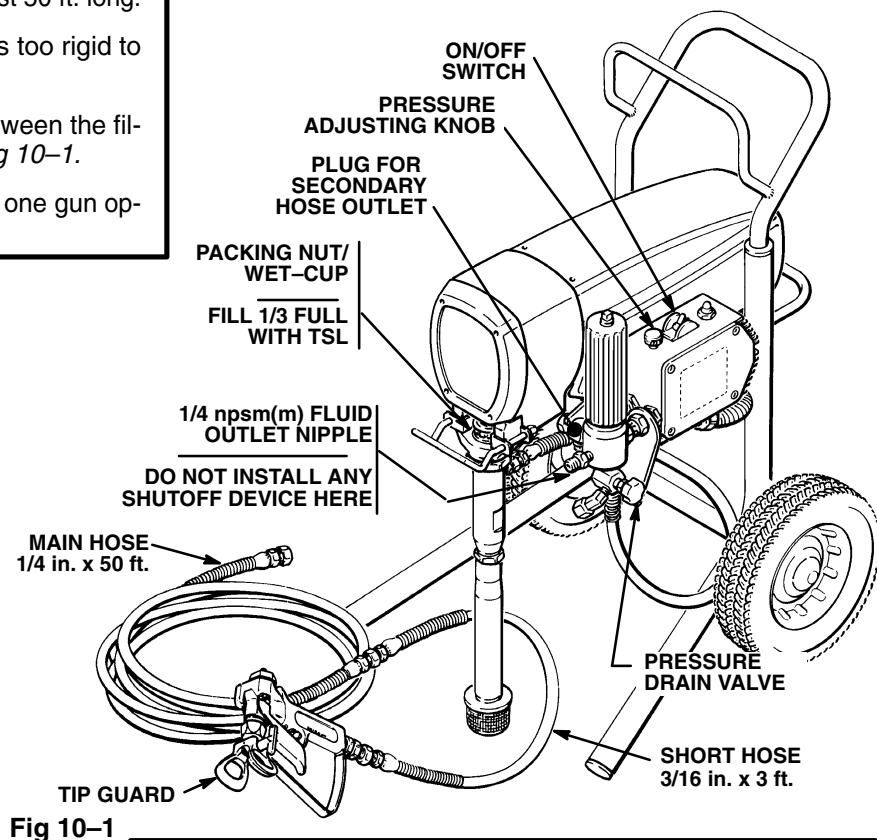

Fig 10–1
NOTE: Refer to Fig 10–1 for Steps 1 to 3.
3. Never install any shutoff device between the filter and the main hose. *Refer to Fig 10–1.*